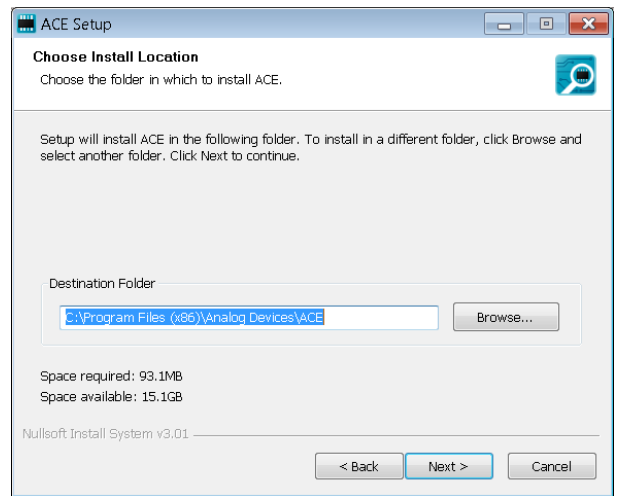

Figure 5. Choose Installation Location
6. Click **Browse** to choose the installation location and then click **Next >** (see Figure 5).